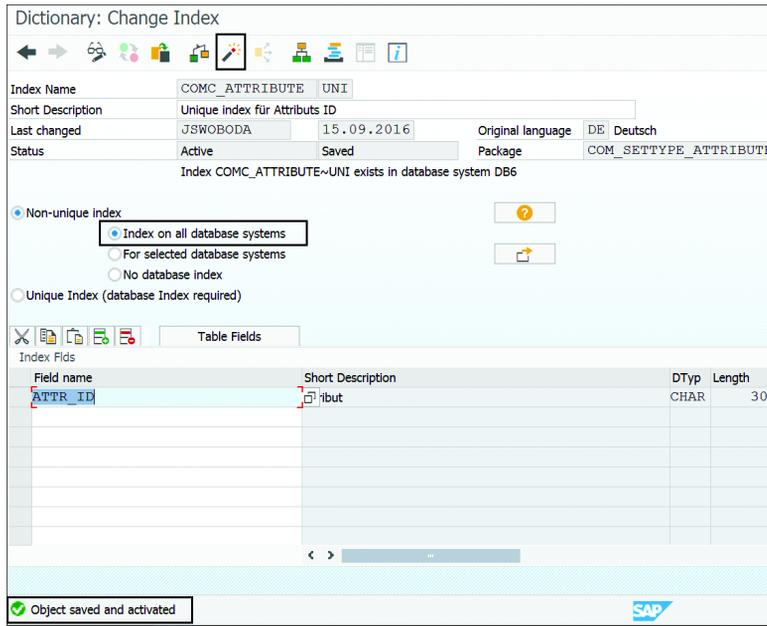

Figure 73 Object Successfully Saved and Activated
9. Validate that the INDEX FOR ALL DATABASE SYSTEMS option is selected, then click the ACTIVATE button. Look for the prompt at the bottom of the screen, as shown in Figure 73.